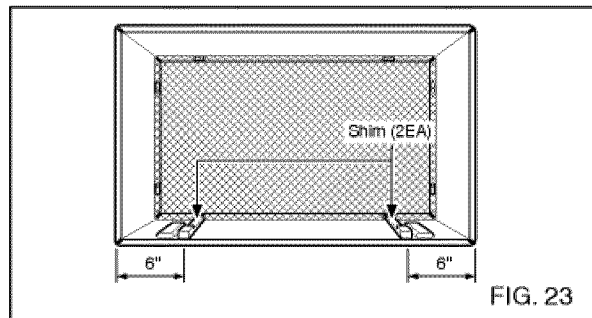

FIG. 23
- 7** To achieve rearward slope for unit draining, remove the backing from the  $1\frac{13}{16}$ " shim strips and attach them as shown below in Fig. 23. The higher portion of shim is to be placed in front of the rib on the base of wall sleeve.